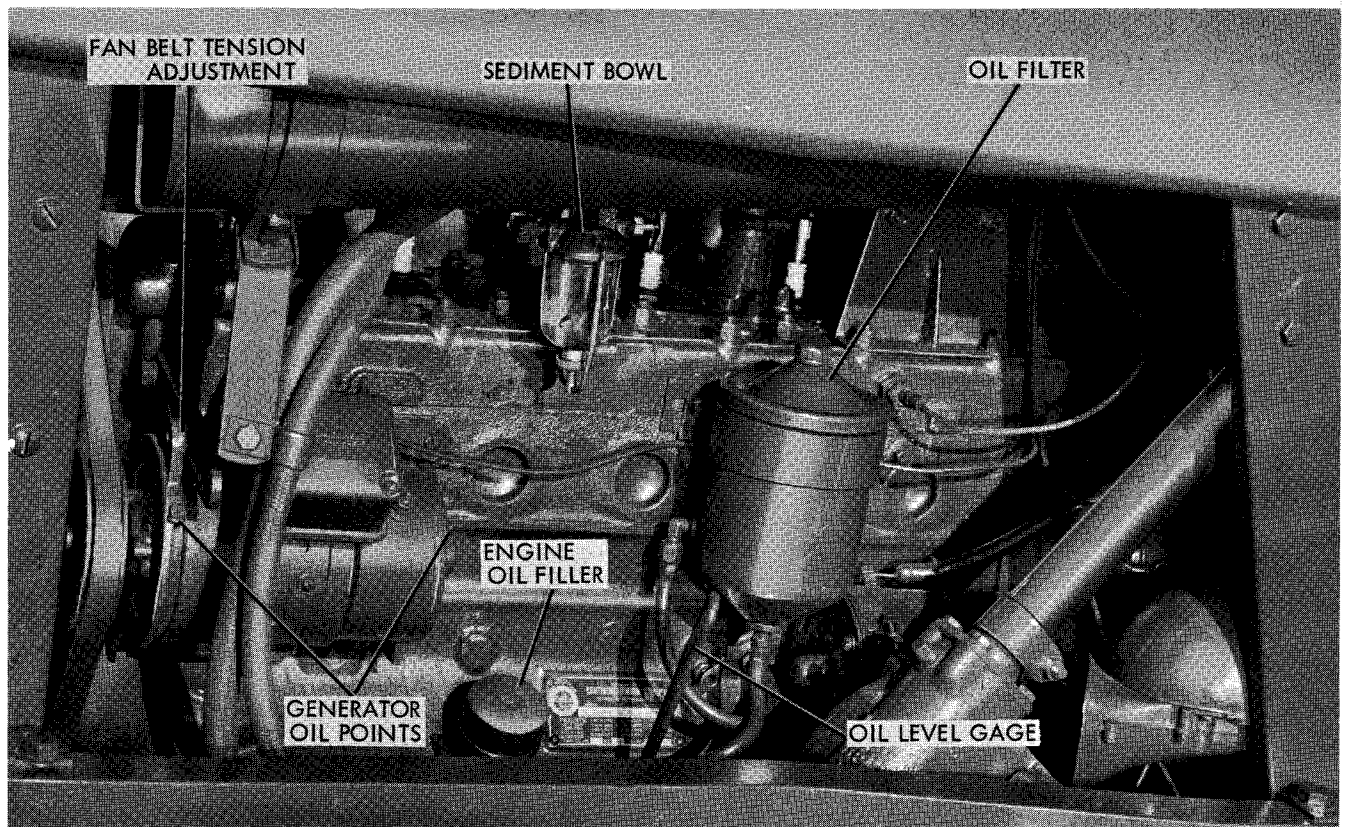
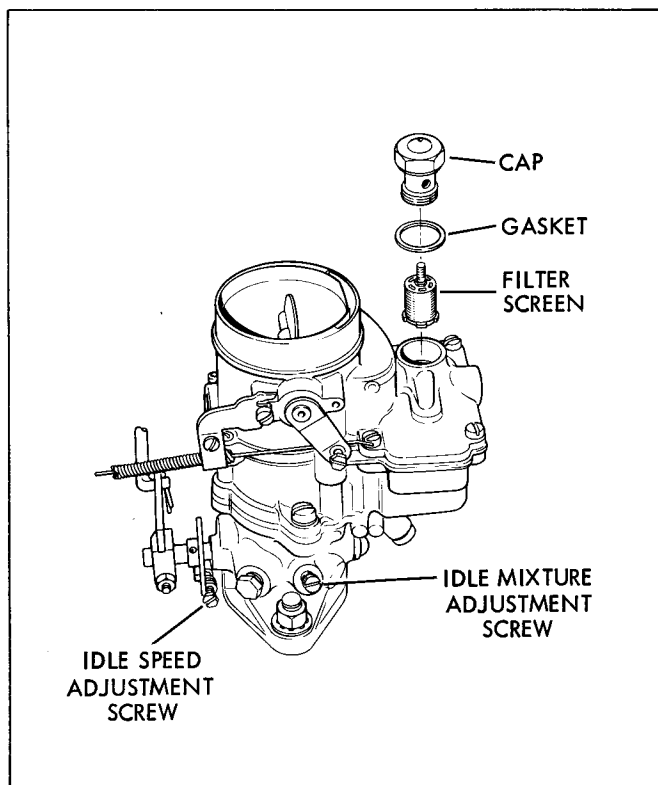

Figure 9. Left Side View of Engine
Figure 10. Carburetor Fuel Filter
Your Series V Tractor is equipped with two filters in the fuel line. One is a metal screen in the sediment bowl below the fuel tank (see figure 9). The other is a disc-type filter in the carburetor (see figure 10). It should be noted here that whenever trouble occurs, and indications point to a lack of fuel, one of the first things to suspect is a clogged filter, and it will generally be the one in the carburetor.
Check the fan belt tension at every oil change. Correct tension should allow between  $\frac{3}{4}$  inch and 1 inch slack on the long span. To adjust the tension, loosen the adjusting screw (see figure 9) and either move the generator away from the engine to increase the tension, or closer to the engine to relax the tension. When correct tension is obtained, tighten the adjusting screw.
6. Setting the idle mixture and idle speed adjustment screws on the carburetor (see figure 10).